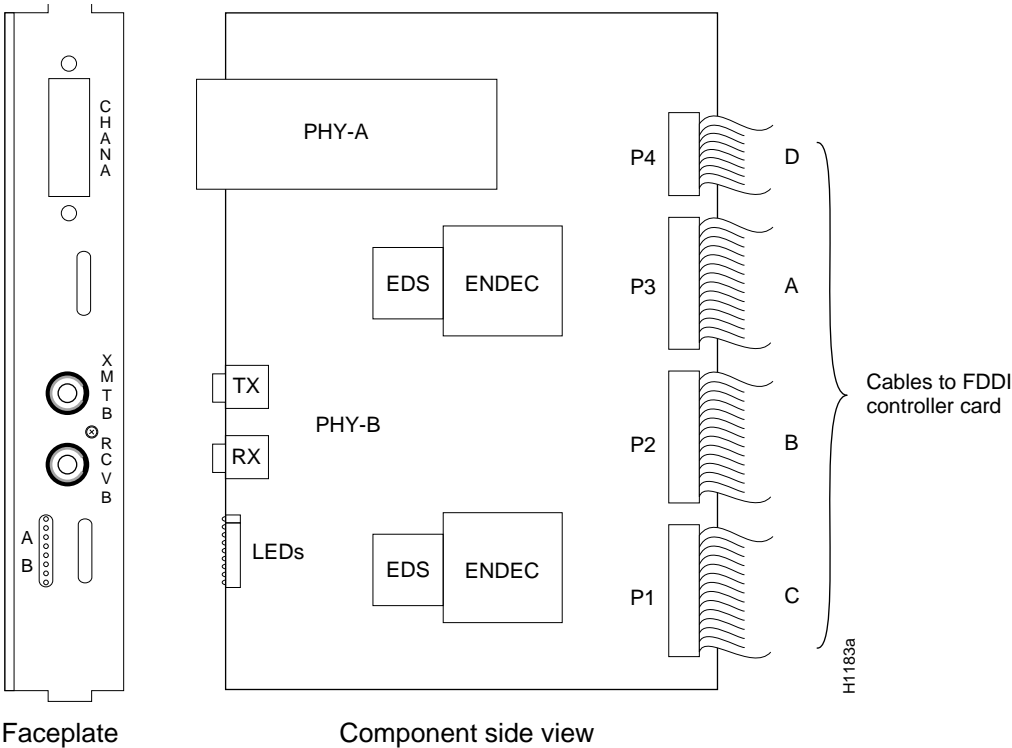

Figure 3 Multimode/Single-Mode Appique—APP-LMS
- PHY-A multimode, PHY-B single mode (APP-LMS), Figure 3